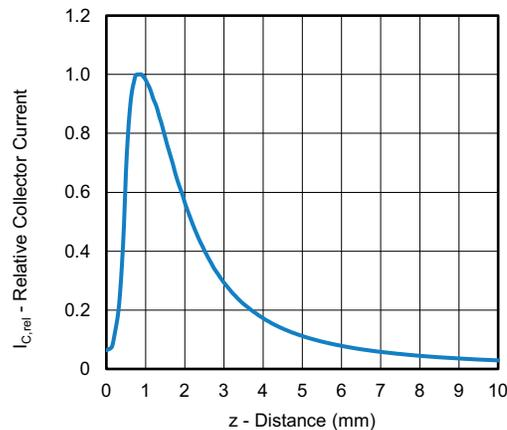

Fig. 3 - Relative Collector Current vs. Distance
The VCNT2030 is a reflective proximity sensor with an analog transistor output. The VCSEL sends out a beam of infrared (IR) light. A close object will subsequently reflect part of that light back towards the sensor. The reflected signal induces a photocurrent that is amplified at the detector. The amplitude of the output current correlates directly and proportionally to the amount of the received IR irradiation. On the other hand, the amount of radiation that is reflected back depends on various factors, the most prominent of which are the distance between the sensor and the reflective object and the reflectivity of the object. This leads to a dependence of the output current on the distance to a reflective object, as shown in Fig. 3. The distance curves were recorded using a Kodak Gray Card that has a calibrated, diffuse reflecting surface of 20 %. The distance is measured from the top of the sensor. The emitter current  $I_F$  is held constant at 8 mA.
However, this value applies for an object at 1 mm, and therefore has to be further reduced since the distance from the sensor in this scenario was defined as 2 mm. From the distance curve in Fig. 3, the relative collector current at a distance of 2 mm is estimated as about 0.55 times the maximum collector current. Compared with the collector current at 1 mm, a distance of 2 mm leads to a reduction in of the collector current of  $0.55 / 0.95 = 0.58$ .